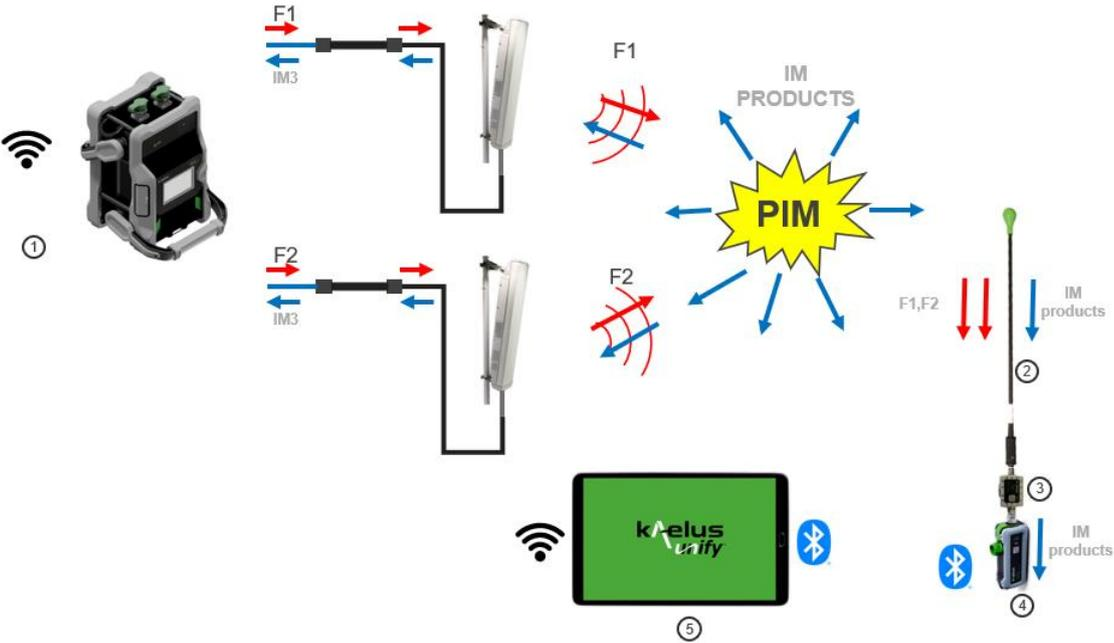

Figure 2. Diagram illustrating Kaelus PIM Finder (2-port solution) principle of operation.
- The **PIM Finder 2-port solution**, as illustrated in Figure 2, is an advanced solution designed to detect external PIM generated when two or more radio units are collocated. This solution allows the PIM measurement to be performed in a situation as close as possible to the site configuration. The iXA (1) generates two CW tones and applies one tone on each antenna. With this approach, the PIM sources internal to the antenna systems cannot produce intermodulation products since they are only energized with a single tone. The rest of the method of operation is similar to the 1-port solution. Still, with some significant advantages: the iXA offers two different measurement modes which can be selected and configured remotely by software. First, the user can perform a standard two tones test and verify the internal PIM level of each system, then can switch seamlessly to the 2-port mode to focus on external PIM finding. Second, the iXA contains two RTF, one on each port. It, therefore, allows the user to perform four sets of RTF measurements: 2 tones on each feeder and one tone on each feeder (high band and low band). Consequently, the user now has four times the information compared to the 1-port solution to locate the external PIM source. Once the external PIM source has been identified, a variety of PIM mitigation techniques can be employed to reduce the PIM level and improve system performance.